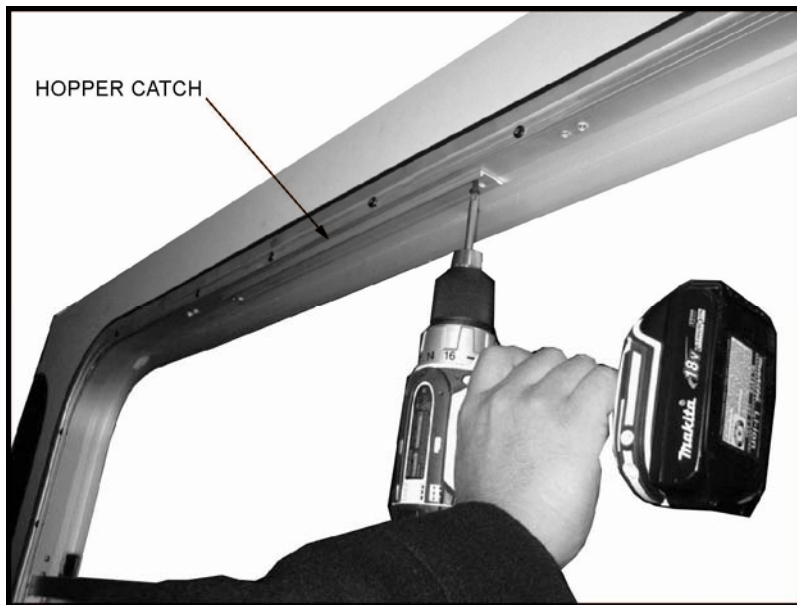

FIGURE 7: INSTALL HOPPER CATCH
7. Refer to **Figure 7**. Install 8-32 x 7/16" screws and re-install Hopper Catch to window frame.